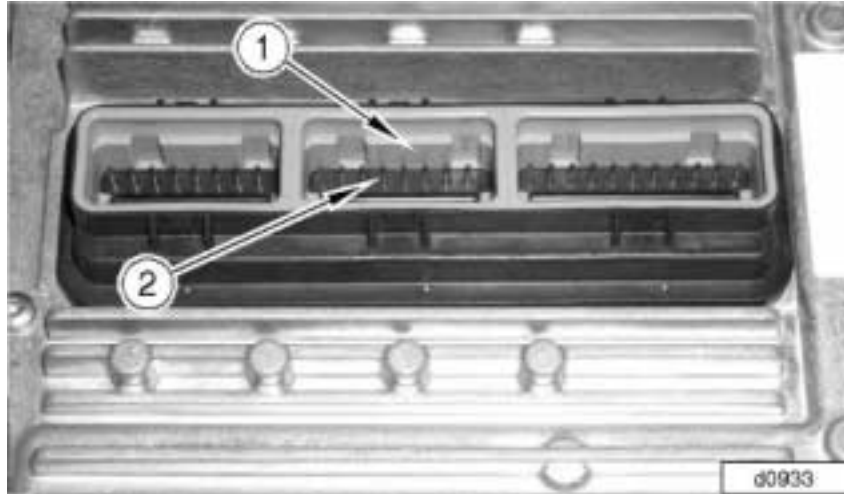

Figure 6: Inspecting the Rubber Seals and the Connecting Pins
1. Check both modules (IDM and ECM) for damage to the rubber seals (1) or to the pins in any of the connector cavities (2) as shown in Figure 6. If there is seal or pin damage, replace the control module. Do not attempt to straighten bent pins.